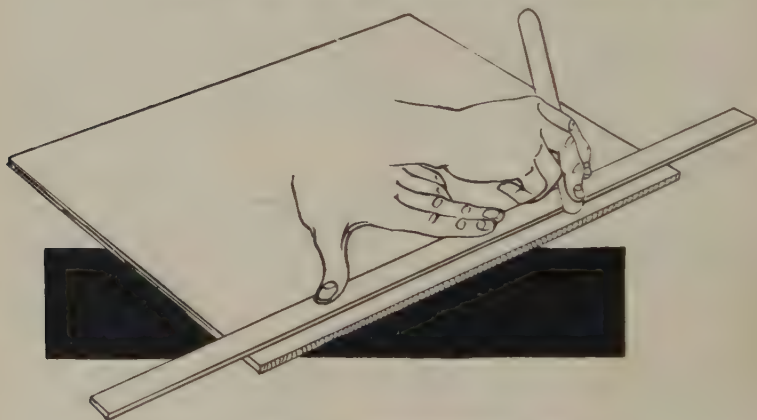

FIG. 271 —CREASING SECTIONS WITH FOLDER
6. Carefully crease each section *on both sides* one-quarter inch away from glued edge by using edge of bone folder run *firmly* along a straight edge laid lengthwise on section. Fig. 271. This will make book open easily.